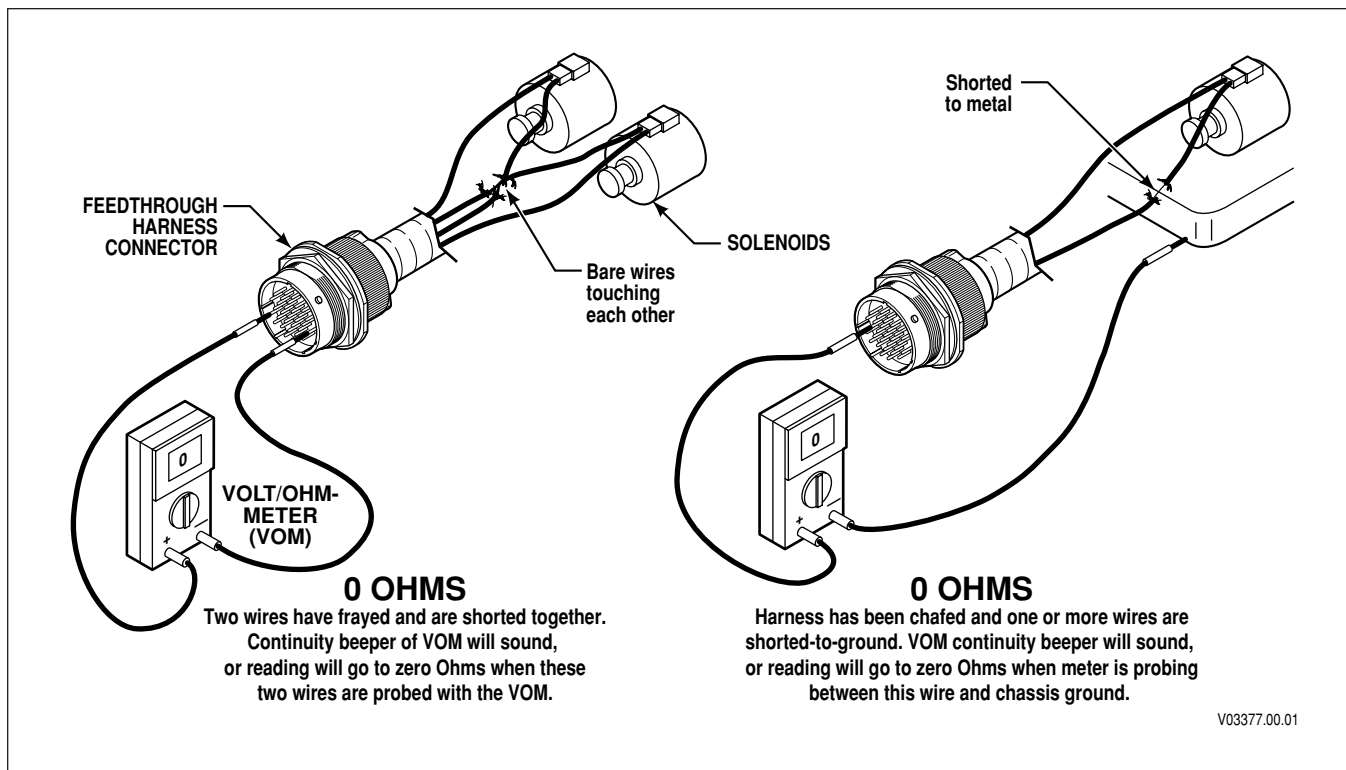
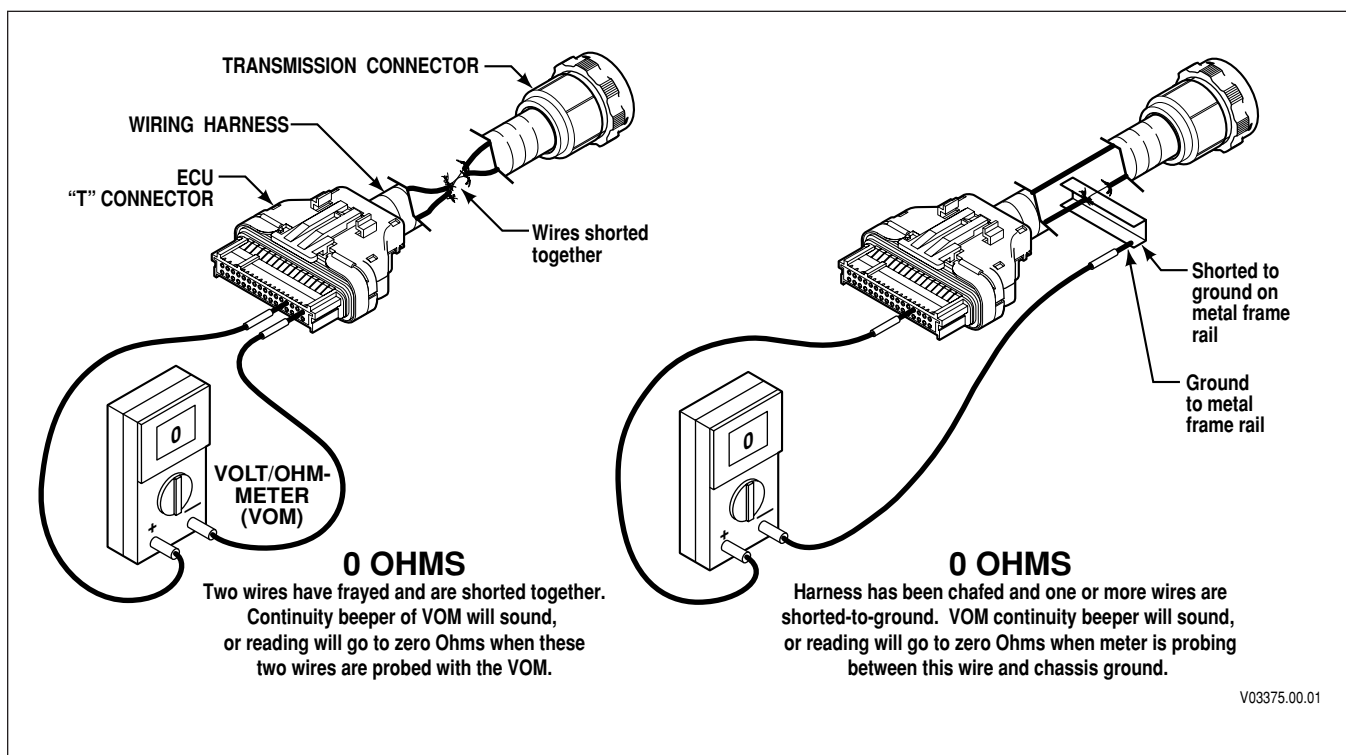

Figure 4-1. Open Circuit
Figure 4-2. Short Between Wires and to Ground
- a. Test the continuity of wires 102-T1 and 120-T4 by performing the following (refer to Figure 4-1):
- (1) Disconnect the blue “T” connector from the ECU and disconnect the harness from the transmission main connector. At one end of the harness, using jumper wire kit J 39197 and connector probes in J 39775-CP, connect wire 102-T1 and 120-T4 to each other, being careful not to distort the terminals. Jumping the wires together creates a circuit between wires 102-T1 and 120-T4.
- (2) On the opposite end of the harness, test the continuity of the jumpered pair. No continuity in a jumpered pair circuit (infinite resistance reading) indicates an open in the wire being tested. Locate and repair the damaged portion of the wire.
- b. If the continuity test is good (0-2 Ohms resistance), remove the jumpers. Test the harness for shorts between wires and shorts-to-ground by performing the following (refer to Figure 4-2):
- (1) At the ECU end of the harness, touch one probe of a volt/ohmmeter (VOM) to one wire of the circuit being tested and touch the other probe to each terminal in the same connector, then touch the probe to chassis ground and to the transmission main housing. Do this for both wires in the circuit being tested.
- (2) If at any time the VOM shows zero to low resistance, or the meter’s continuity beeper sounds, there is a short between the two points being probed—wire-to-wire or wire-to-ground. Isolate and repair the short.